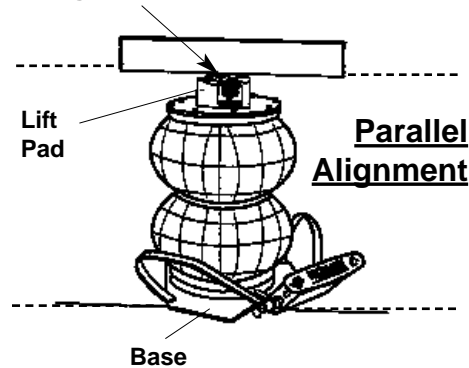
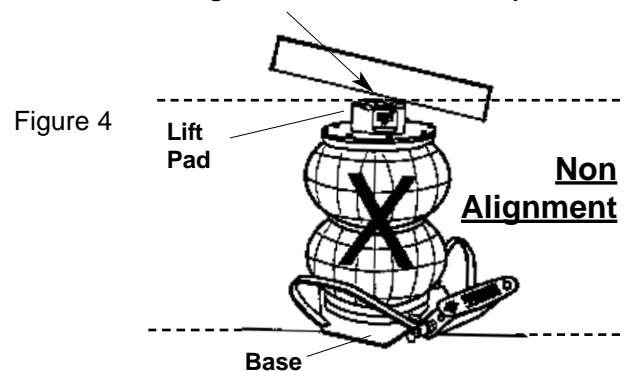

Figure 3
Figure 4
4. Check the intended lifting point on the structural component. This location must be parallel with base of air jack and lift pad. (See Figure 3.) If it is not parallel (see Figure 4), the load may drop suddenly, creating a potential for severe injury or death.